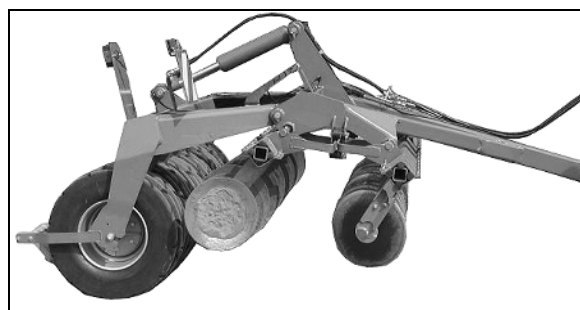

Fig. 29
- Raise both disc rows completely. (Fig. 29).